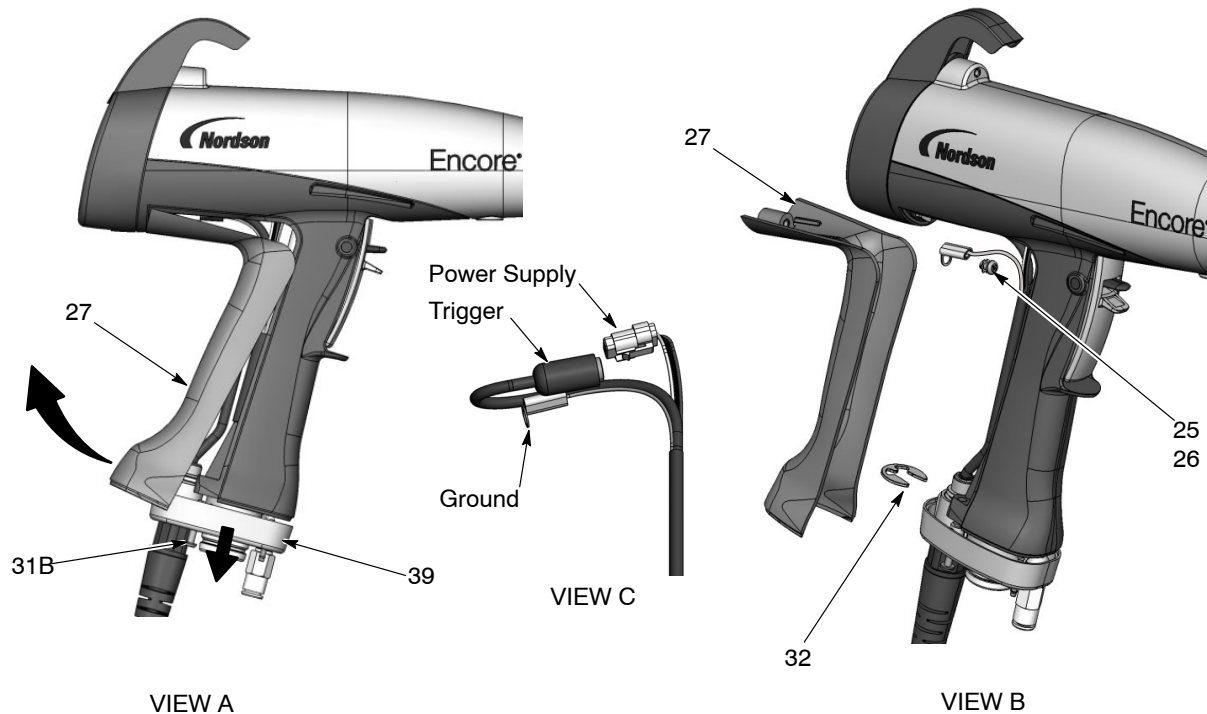

Figure 6-7 Cable Replacement
3. See Figure 6-7, View A. Loosen the two M3 x 20 screws (31B) securing the handle base (39) to the handle.
4. Pull the base away from the handle enough to free the bottom edge of the ground pad (27) from the base.
6. See Figure 6-7, View B. Remove the M3 x 6 screw (25), lock washer (26), and ground terminal from the ground pad.
7. Remove the E-ring (32) from the cable.
8. See Figure 6-7, View C. Pull the cable connectors out of the bottom of the handle. Disconnect the power supply connector from the gun cable connector by inserting a small flat-bladed screw driver in the slot of the power supply connector to release the catch.
1. See Figure 6-7. Feed a new cable through the handle base, then install the E-ring (32) on the cable to hold it in place.
3. Connect the cable terminal to the ground pad (27) with the M3 x 6 screw and lock washer (25, 26).
6. Push the handle base (39) up against the handle and ground pad, and tighten securely the two M3 x 20 screws (31B) in the base.
1. See Figure 6-7. Remove the ground pad as described in *Cable Removal* steps 1–5 . You do not have to disconnect the ground cable from the ground pad.